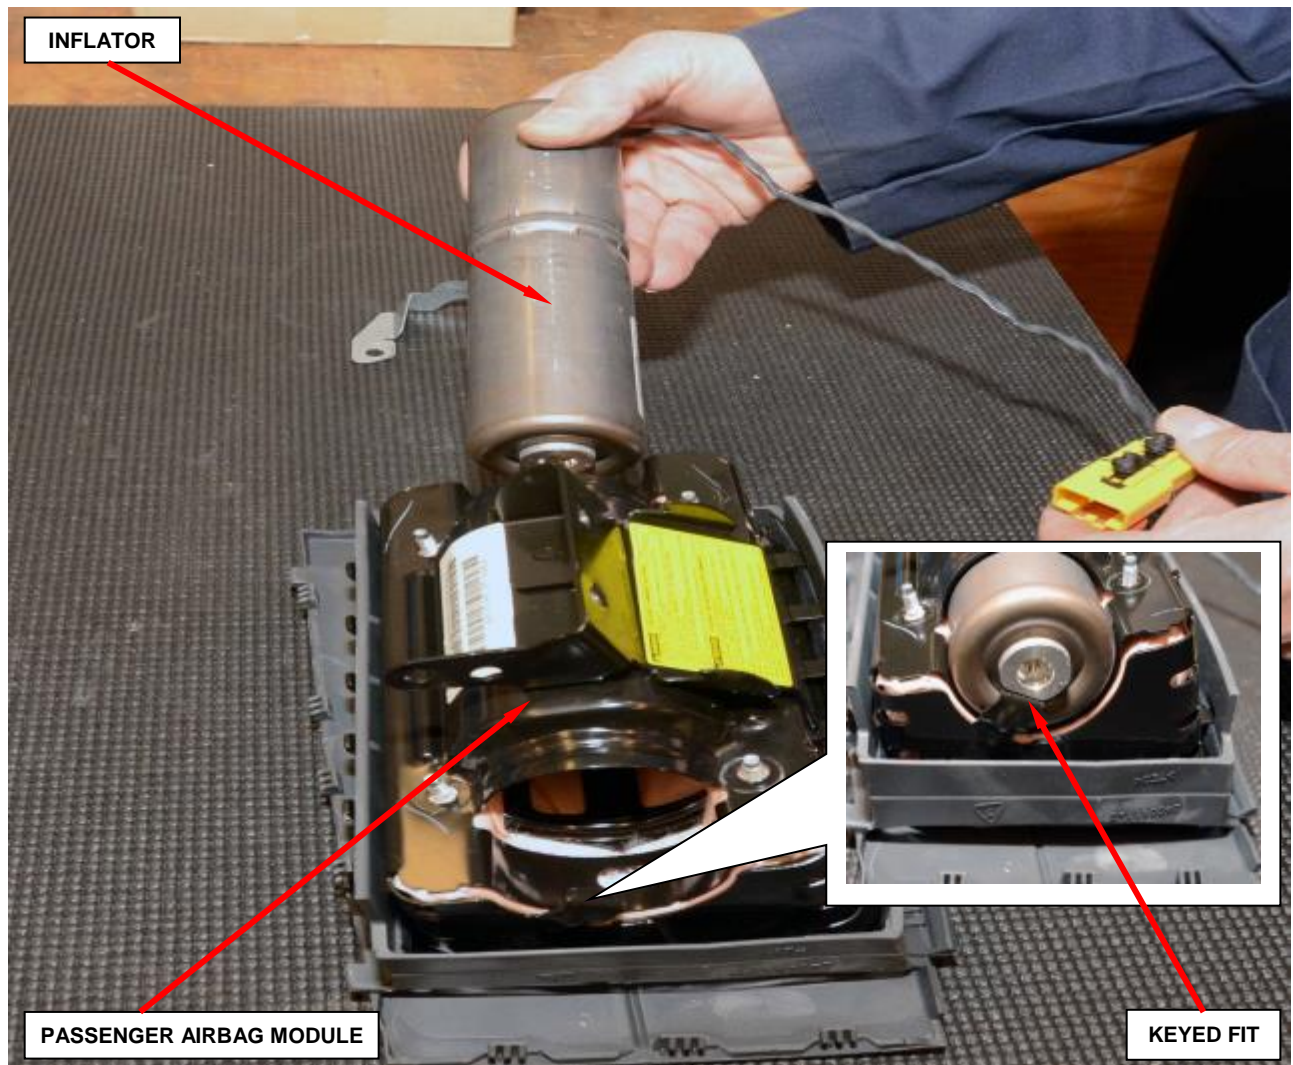

Figure 114 – Passenger Inflator Installation
NOTE: The inflator's key **MUST** line up with the housing's key (Figure 114).
- o. Slide the **new** inflator into the passenger airbag module (Figure 114).
NOTE: The inflator is keyed to fit into the housing (Figure 114).